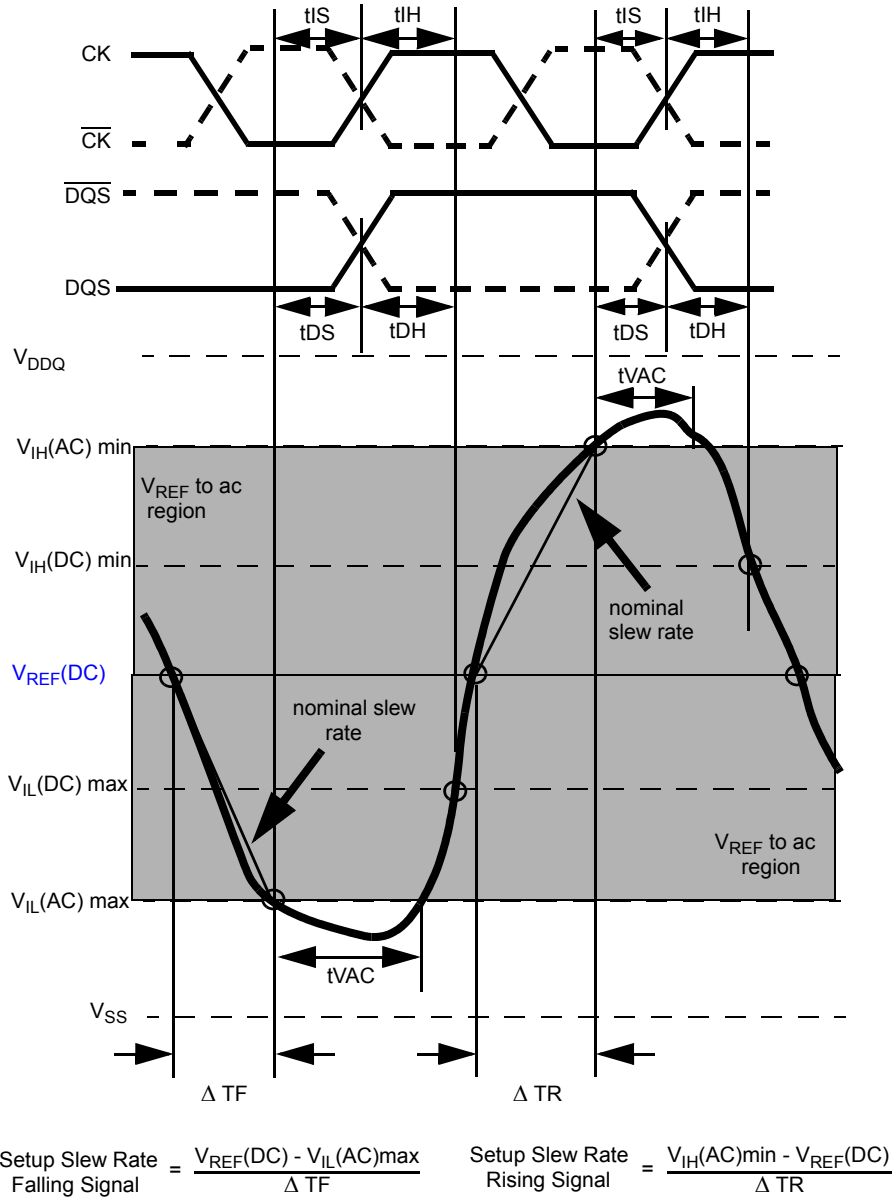
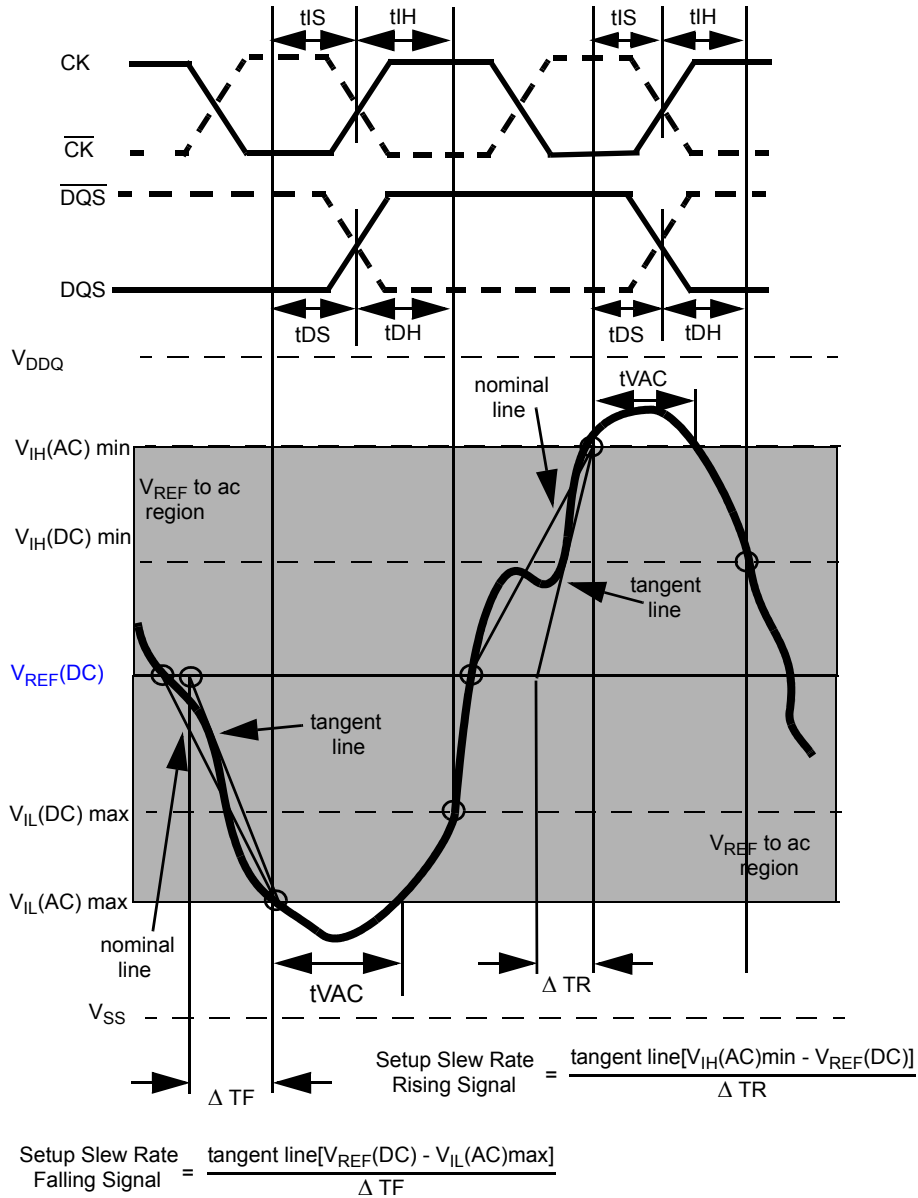

Figure 22. Illustration of nominal slew rate and t_{VAC} for setup time t_{DS} (for DQ with respect to strobe) and t_{IS} (for ADD/CMD with respect to clock).
Figure 24. Illustration of tangent line for setup time t_{DS} (for DQ with respect to strobe) and t_{IS} (for ADD/CMD with respect to clock)
Example: tIS (total setup time) = tIS(base) + ΔtIS Setup (tIS) nominal slew rate for a rising signal is defined as the slew rate between the last crossing of VREF(DC) and the first crossing of VIH(AC)min. Setup (tIS) nominal slew rate for a falling signal is defined as the slew rate between the last crossing of VREF(DC) and the first crossing of VIL(AC)max. If the actual signal is always earlier than the nominal slew rate line between shaded 'VREF(DC) to ac region', use nominal slew rate for derating value (see Figure 22). If the actual signal is later than the nominal slew rate line anywhere between shaded 'VREF(DC) to ac region', the slew rate of a tangent line to the actual signal from the ac level to dc level is used for derating value (see Figure 24).